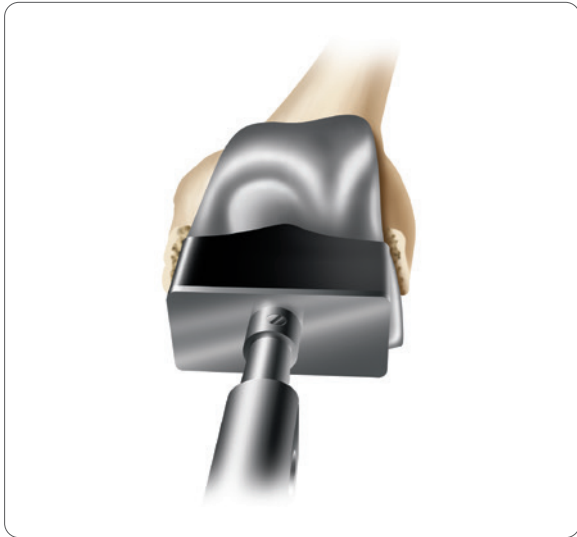

Figure 60
2. Place the femoral implant onto the femur and use the femoral impactor to fully seat the implant (**Figure 60**).